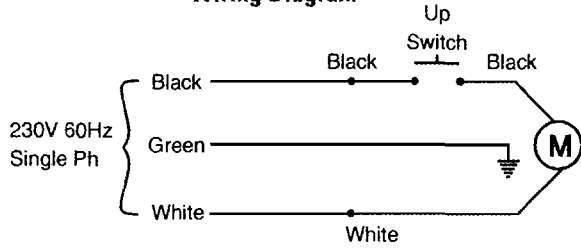

Fig. 9
8. Electrical: Have a certified electrician run appropriate power supply to motor, Fig. 9 & 10. Size wire for 20 amp circuit. See Motor Operating Data Table.
IMPORTANT: Use separate circuit for each power unit. Protect each circuit with time delay fuse or circuit breaker. For single phase 208-230V, use 20 amp fuse. Three phase 208-240V, use 20 amp fuse. For three phase 400V and above, use 10 amp fuse. For wiring see Fig. 9 & 10. All wiring must comply with NEC and all local electrical codes.